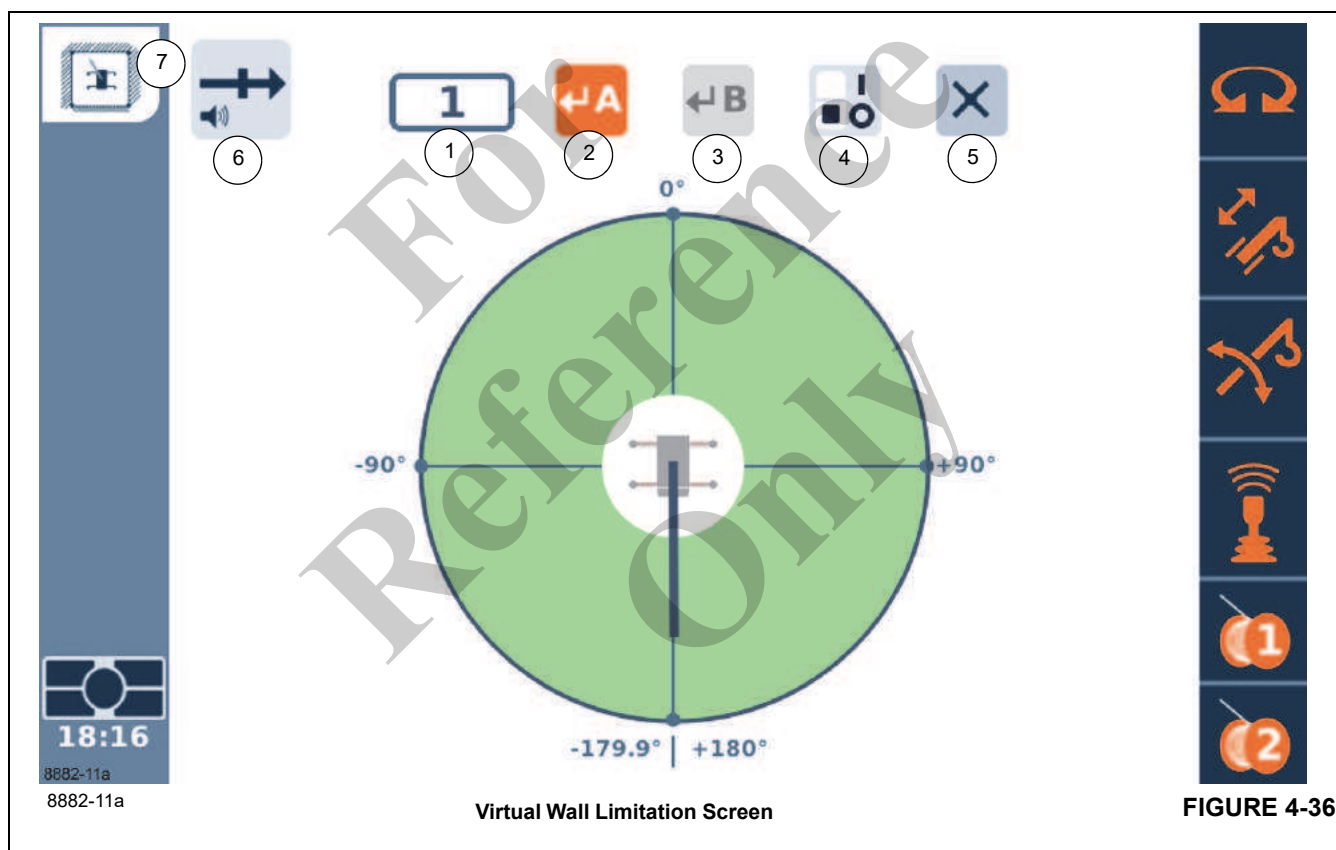

FIGURE 4-36
If the Virtual Wall Limitation is selected from the menu of WRL Limitations, then the Virtual Wall Limitation Screen will be shown (Figure 4-36).
As the arrow keys are pressed, the highlight will move between the objects, with the color orange typically meaning that the object is selected and can be affected by subsequent actions. In Figure 4-36, one can see that the wall Point "A" Symbol is selected since it has the orange color highlighting.
1. Select the Virtual Walls Limitation Screen (6), (Figure 4-30) on the Main Menu Screen (and in this case there would not be any virtual walls shown as defined or active) as noted in the Virtual Walls Number (1), (Figure 4-36). (Note: The number "1" indicates the number of virtual walls and can be up to "5" five virtual walls defined.)
3. Use the Right Arrow (4), (Figure 4-21) Function key to highlight the Accept Crane Position Point A Symbol (2), (Figure 4-36).
5. Position the crane so that the hook is located at the position to define the second point of the Virtual Wall (Point B), or Item 3, (Figure 4-36). **NOTE:** The two points may not be so close to each other that a virtual wall is not clearly defined. The two points should be at least 10 ft apart.
6. Use the Right Arrow (4), (Figure 4-21) Function key to highlight the Accept Crane Position Point B Symbol (3), (Figure 4-36).
1. Be sure you are on the Virtual Walls Limitation Screen Icon (7), (Figure 4-36).
2. Use the Right Arrow (4), (Figure 4-21) function key to highlight the Virtual Wall Number Item (1), (Figure 4-36).
4. Position the crane so that the hook is located at the position to define the first point of the Virtual Wall (Point A or Item 2) as shown in Figure 4-36.
5. Use the Right Arrow (4), (Figure 4-21) Function key to highlight the Accept Crane Position Point A Symbol (2), (Figure 4-36).
6. Use an OK Button (5), (Figure 4-21) to accept the current crane position to be Point A as shown in Figure 4-36. The location of the point should now be shown on the screen with a label that shows the wall number and the letter 'a' as shown in the yellow highlight in the sample Figure 4-37.
7. Position the crane so that the hook is located at the position to define the second point of the Virtual Wall (Point B or Item 3), (Figure 4-36).
8. Use the Right Arrow (4), (Figure 4-21) Function key, if needed, to highlight the Accept Crane Position Point B Item (3), (Figure 4-36).
9. Use an OK (5), (Figure 4-21) Button to accept the current crane position to be Point B (3), (Figure 4-36). The location of the point should now be shown on the screen with a label (1b) as shown in yellow highlight in Figure 4-37.
2. Use the Right Arrow (4), (Figure 4-21) key and to highlight the Virtual Wall Number (1), (Figure 4-36).
3. If the wall number shown is not the correct number for wall to be disabled, use an OK Button (5), (Figure 4-21) to allow you to modify the value. (In other words, be sure that the number of walls you set matches the Virtual Walls Number (1), (Figure 4-36).
5. Use the Left Arrow and/or Right Arrow (4), (Figure 4-21) keys or the Jog Dial (5), (Figure 4-22) to highlight the Enable/Disable Switch Symbol (4), (Figure 4-36).
2. Use the Right Arrow (4), (Figure 4-21) Function to highlight the Virtual Wall Number (1), (Figure 4-36).
3. If the wall number shown is not the correct number for wall to be disabled, use an OK Button (5), (Figure 4-21) to allow you to modify the value. (In other words, be sure that the number of walls you set matches the Virtual Walls Number (Item 1), (Figure 4-36).
4. Use the Left Arrow and/or Right Arrow (4), Figure 4-21 key to highlight the "X" or the Remove Virtual Walls Symbol (5), (Figure 4-36). Use an OK Button (5), (Figure 4-21) or the Jog Dial (5), (Figure 4-22) to delete the wall.